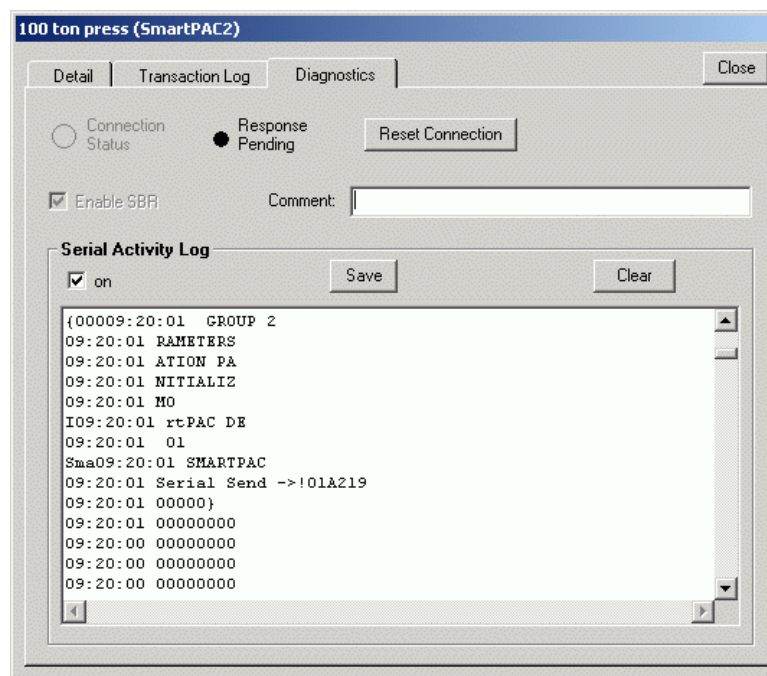

Figure 9. SBR Backup/Restore Screen, Diagnostics Tab
20. 17. You can document the backup when it is completed by clicking on the *Diagnostics* tab on the SBR Backup/Restore screen (see Figure 9), then entering a description in the **Comment:** field (e.g., name of person performing the backup, reason backup is being performed, difficulties encountered in performing the backup, etc). Your description appears in the **Comment:** field on the SBR screen to the right of the date and time of the backup.
4. You can enter a comment about the restore just as you can for a backup. You make your entry in the **Comment:** field in the Diagnostics Tab on the SBR Backup/Restore screen (see Figure 9).
1. Try running the backup or restore again by clicking on the *Diagnostics* tab, then clicking on *Reset Connection* (see Figure 9).